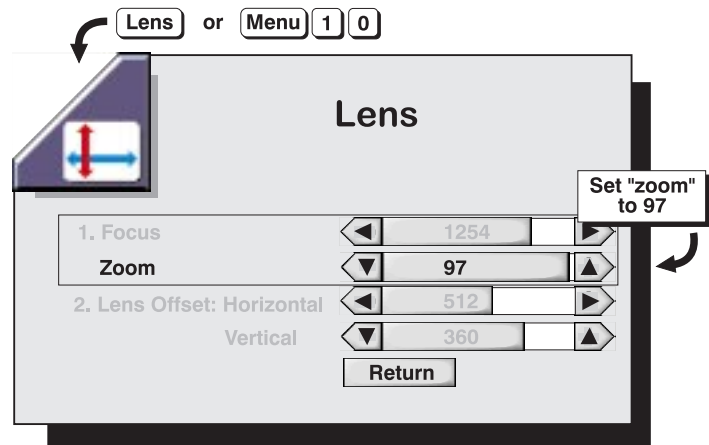

Figure 4-8. Set “Zoom” to 97
- d) On the keypad, press **[Lens]** or **[Menu]** **[1]** **[0]** to access the *Lens* menu. Set the lens *Zoom* setting to 97 (maximum). See Figure 4-8.